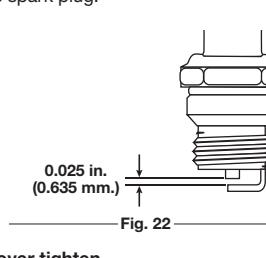

Fig. 22
- Replace a cracked, fouled or dirty spark plug. Set the air gap at **0.025 in. (0.635 mm)** using a feeler gauge (Fig. 22).